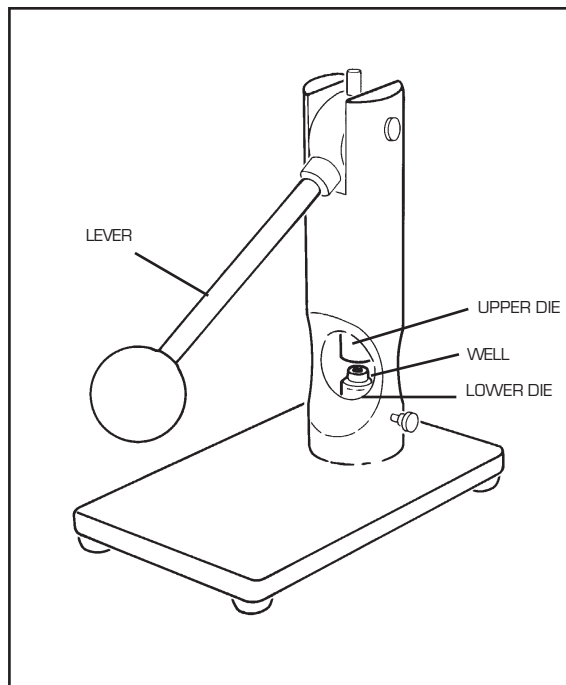

Figure 5.9
4. Place the pan in the well of the lower die of the Sample Encapsulating Press (see Figure 5.9).